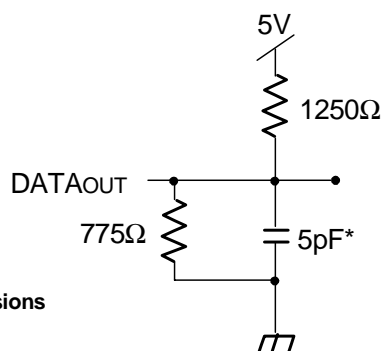

Figure 2. Output Test Load
1. Transition is measured 0mV from Low or High-impedance voltage Output Test Load (Figure 2).
1. Transition is measured 0mV from Low or High-impedance voltage with Output Test Load (Figure 2). This parameter is guaranteed by device characterization but is not production tested.
7. This parameter is determined by device characterization, but is not production tested. Transition is measured 0mV from steady state with the Output Test Load (Figure 2).